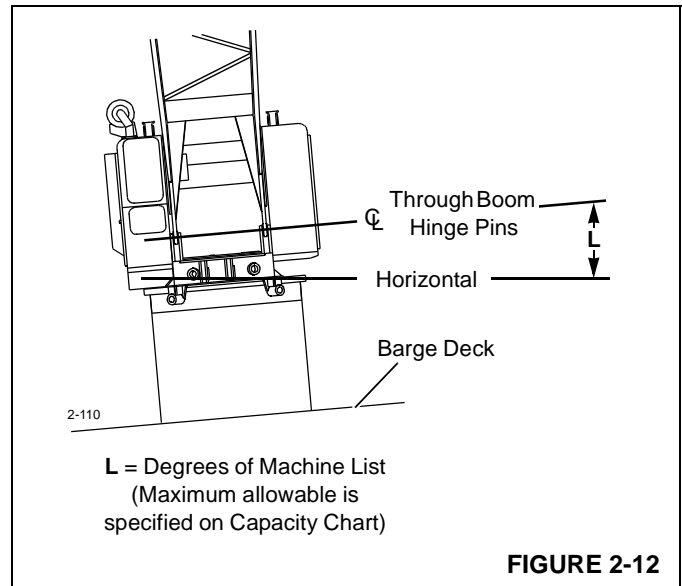

FIGURE 2-12
1. *Machine List*, as defined by Manitowoc, is crane's out-of-level condition — from side-to-side — as measured by angle between horizontal and a line drawn through centerline of crane's boom hinge pins (Figure 2-12). This out-of-level condition creates side load and effects crane's lifting capacity.